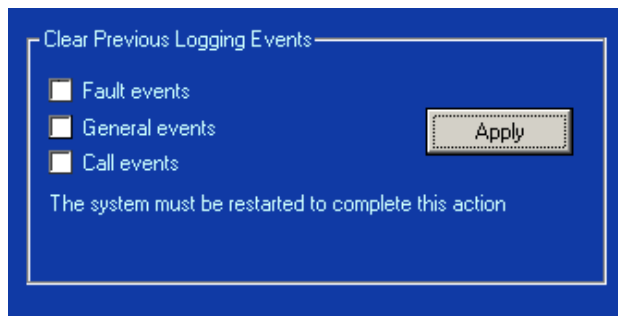

figure 28.12: Clear logging
- 1 Click the *Clear logging* button in the navigation bar. A screen similar to the one in figure 28.12 appears.